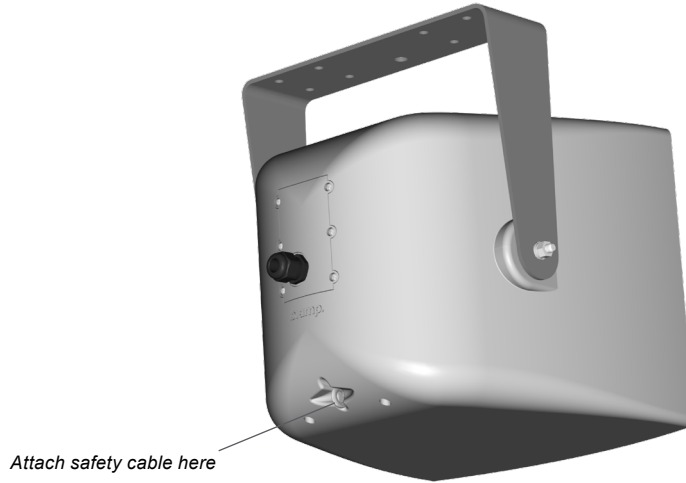

Figure 4. Attach the safety cable
4. Attach a safety cable to the integrated eyebolt on the rear of each loudspeaker (see Figure 4).